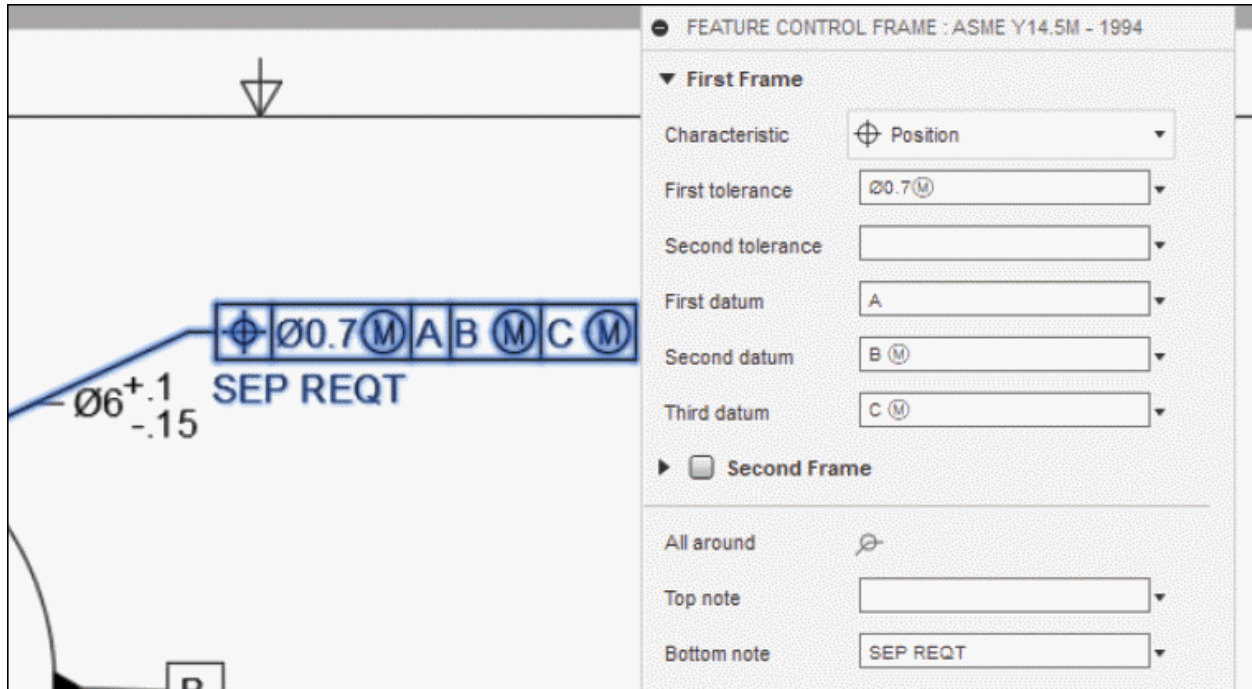

Figure-152. Creating feature control frame
- Specify the parameters as shown in Figure-152 and click on the **Close** button.